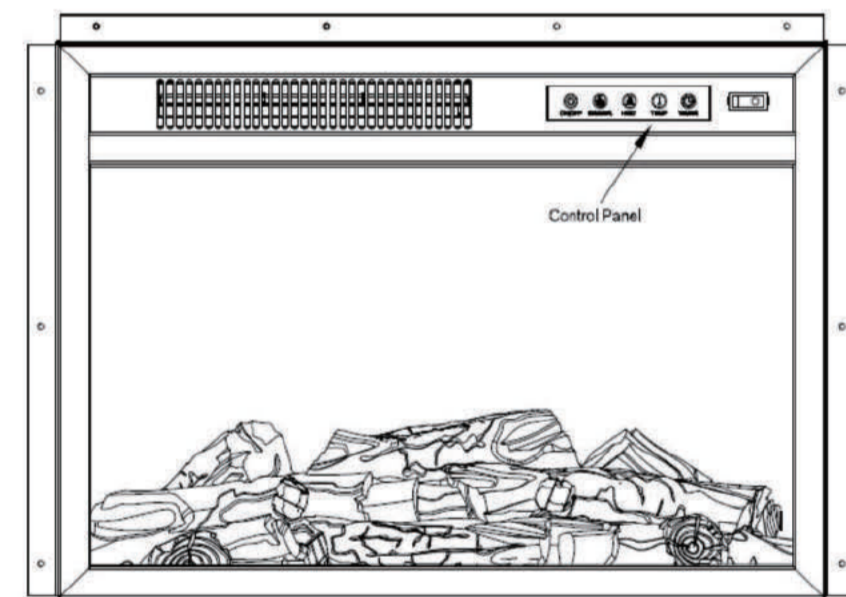

Fig.2
- Using the control panel, located on the upper right-hand of the fireplace(Fig.2).